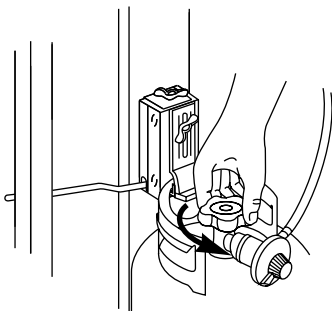

Figure 8
e) Open the tank valve. Figure 8.